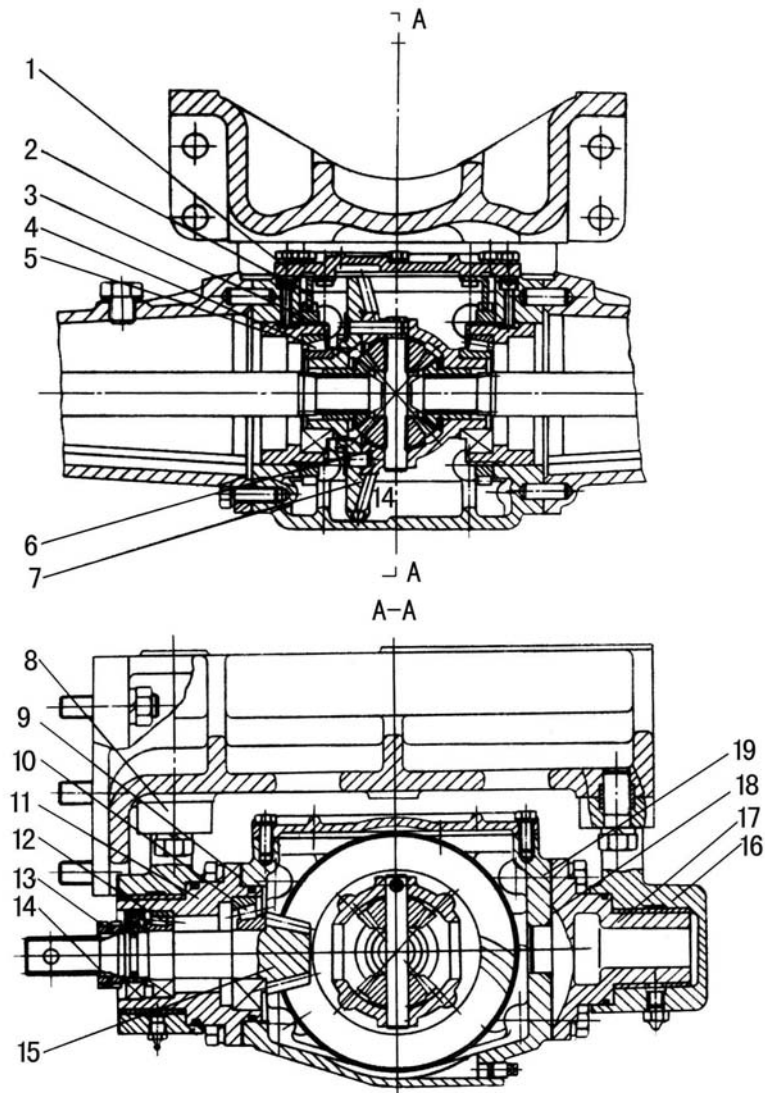

Fig.4-9 Main drive of front drive axle and differential assy
1) Adjustment of main drive (Fig.4-9)
3) Adjustment of intermediate driven gear pairs (Fig.4-9)